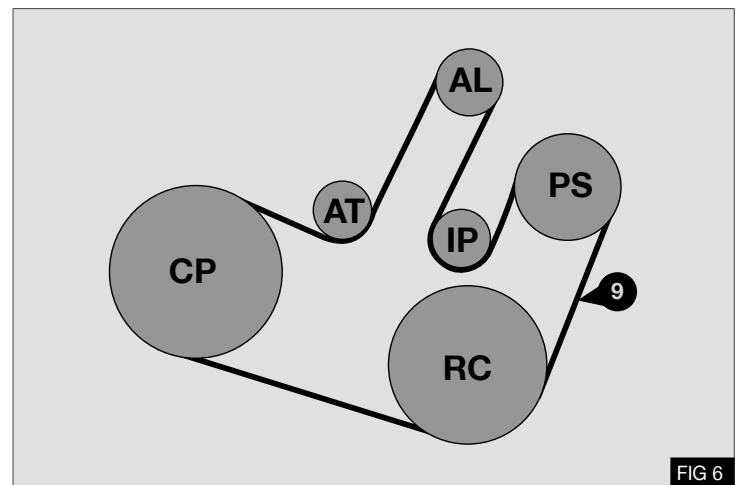

FIG 6
1. Fit the supplied replacement poly groove engine drive belt (9) to the engine in the configuration shown - Fig.6